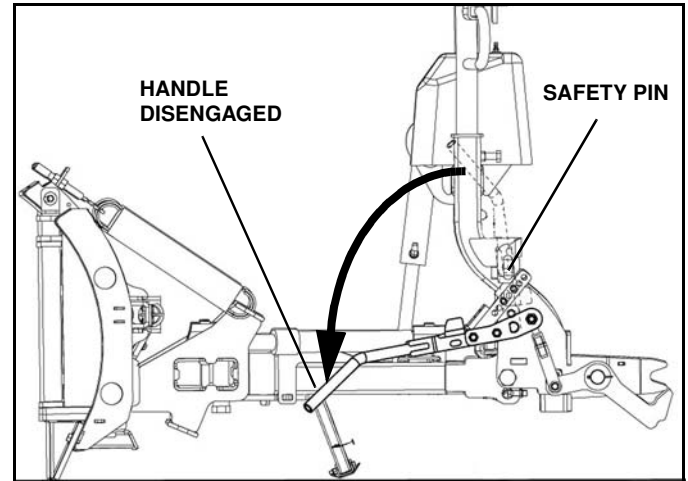

Figure 1-39
7. Pull safety pin on engagement handle to release and lower handle to disengage plow from truck. (See Figure 1-39).